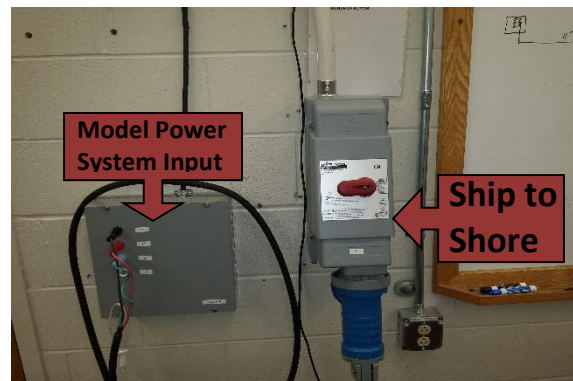

Figure 6: Ship to Shore Plug
- Turn on main power supply, box 0 (figure 6)
- Rout power to ship to shore plug, box 1 (figure 6)